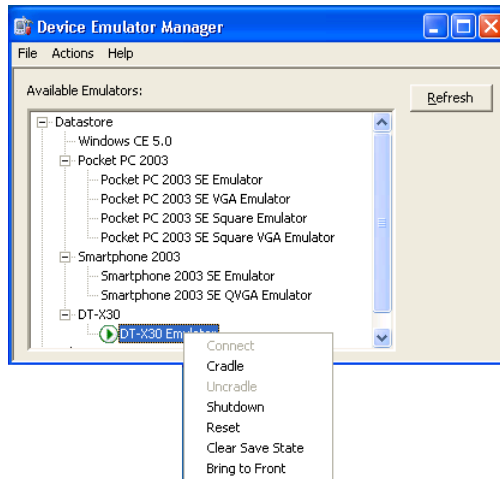

Figure 7.15
2. Start up Visual Studio 2008 or Visual Studio 2005, and then navigate to **Tools** → **Device Emulator Manager**. Right-click **DT-X30 Emulator** in **Available Emulators** list and then choose **Cradle** in the popup menu. See Figure 7.15.